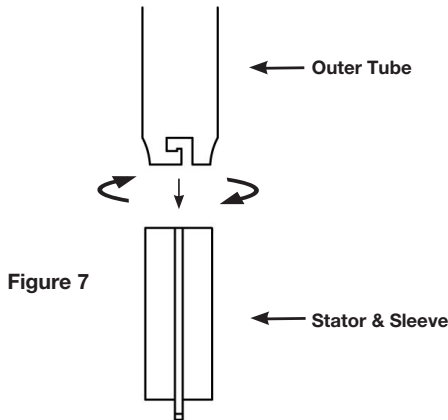

Figure 7
- Remove stator from outer tube by rotating the stator sleeve clockwise and pulling the stator sleeve and PTFE stator through the bottom of the outer tube (see Figure 7).
- Install stator/stator sleeve in outer tube by aligning the tabs on the sleeve with the grooves on the outer tube, inserting the sleeve and rotating counterclockwise (see Figure 7).